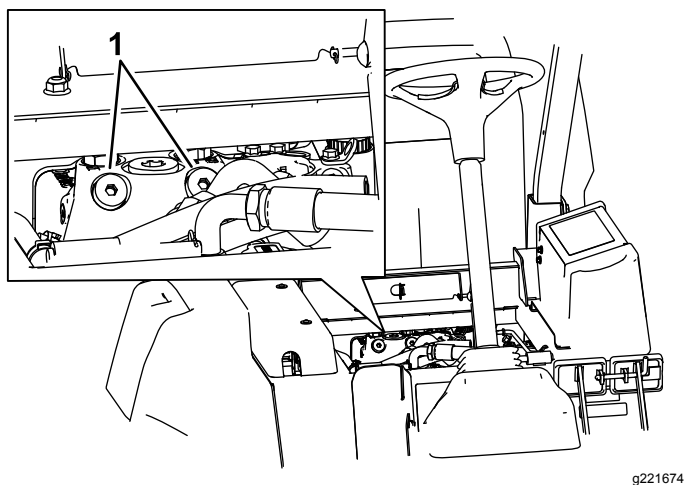

Figure 58
1. Raise the seat and locate the bypass valves, which are located below the front of the fuel tank (Figure 58).